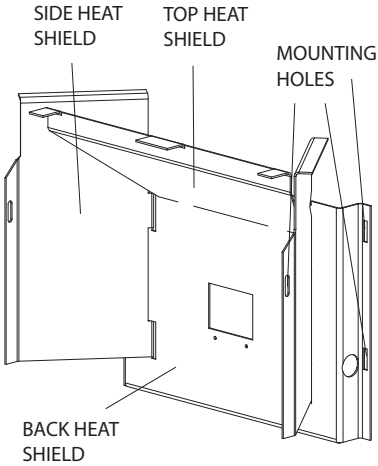
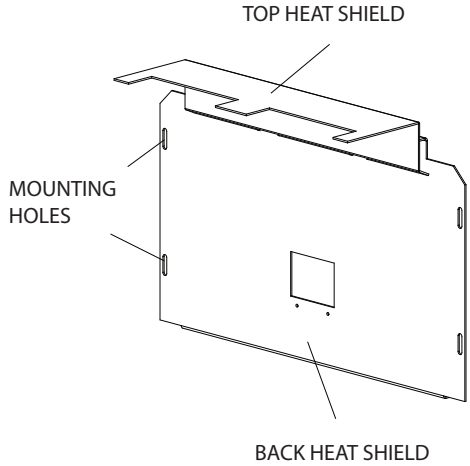

Figure 21. Model 100 and KSH 120 Heat Shields.
Figure 22. BayWin Heat Shields.
- b. Clean behind the back heat shield as well as all exhaust passages. Ashes can build up behind the back heat shield and inside the exhaust passages. To remove the back heat shield you must remove 4 bolts located at each corner of the heat shield. On some models the heat shields must first be removed by removing the 2 bolts holding them in place. Using a brush, remove all of the ashes that have built up on the back wall of the combustion chamber, on the inside of the heat shields as well as in the exhaust passage. Inspect the auger chute gasket at this time. Make sure the gasket is still in good condition and that it is in the original position when the back heat shield is bolted back into position. Make sure to clean behind the back heat shield after every 3 tons of fuel burned. See Figure 21 and Figure 22 for removal of the heat shields.